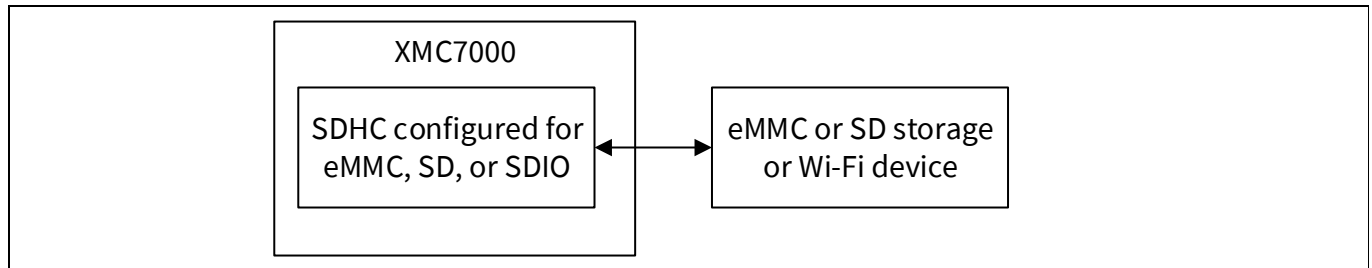

Figure 31-1. Typical SDHC application
The secure digital high capacity (SDHC) host controller in XMC7000 MCU allows interfacing with embedded multimedia card (eMMC)-based memory devices, secure digital (SD) cards, and secure digital input output (SDIO) cards. **Figure 31-1** illustrates a typical application using the SDHC block.